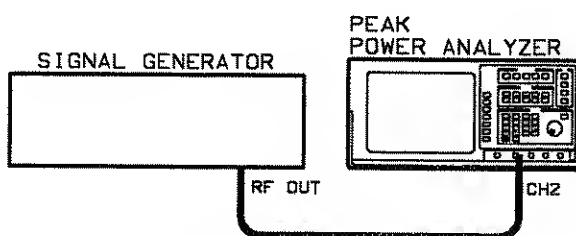

Figure 4-10.
1. Connect the equipment as shown in Figure 4-10.